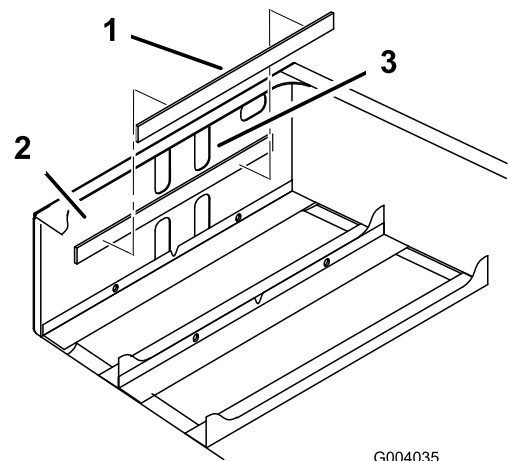

Figure 5
3. Remove the adhesive strip from the back of the battery pad and install it onto the front inside face of the rear frame (Figure 5).
Note: The pad should be approximately 6 mm (1/4 inch) below the bottom edge of the upper set of cutout holes (Figure 5).